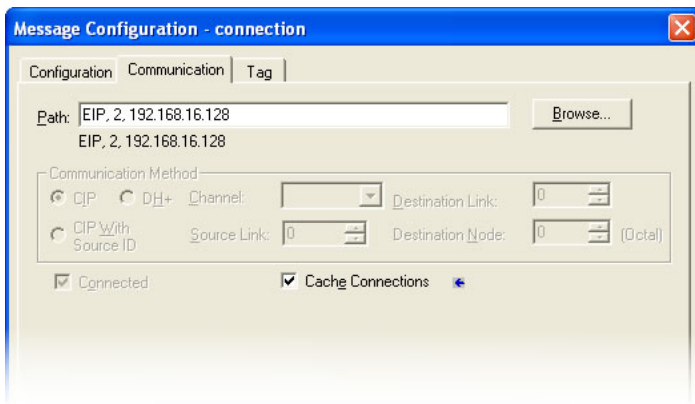

Figure 47: Setting the Communication Path
- d) “Communication” tab settings (refer to Figure 47):